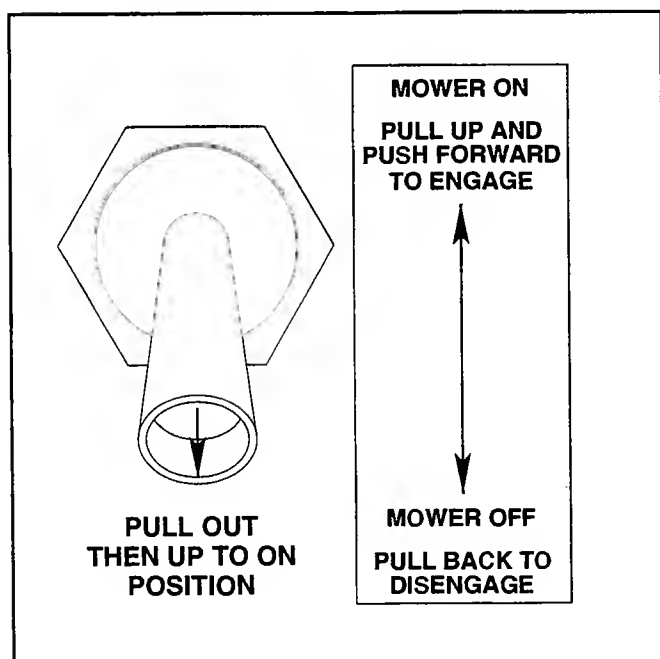

Figure 16
9. Pull mower engagement switch out and push forward to engage cutter drive belts. (See **Figure 16**) Allow belts to run for five minutes.